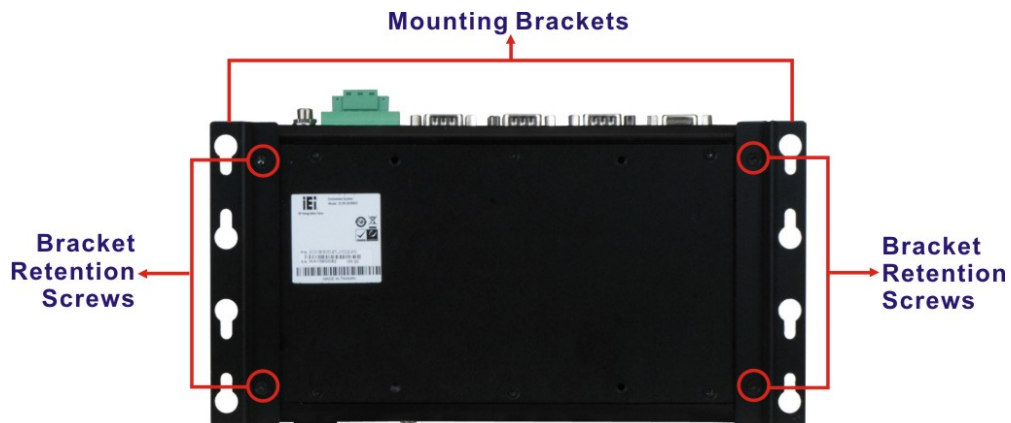

Figure 3-23: Mounting Bracket Retention Screws
Step 3: Secure the brackets to the system by inserting two retention screws (M3*5) into each bracket (Figure 3-23).